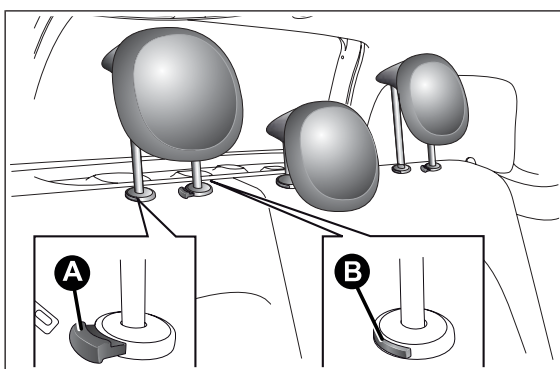

fig. 18
**Downwards adjustment:** press button A fig. 18 and lower the head restraint.
- ☐ press buttons A and B fig. 18 at the side of the two supports, then remove the head restraints by pulling them upwards.